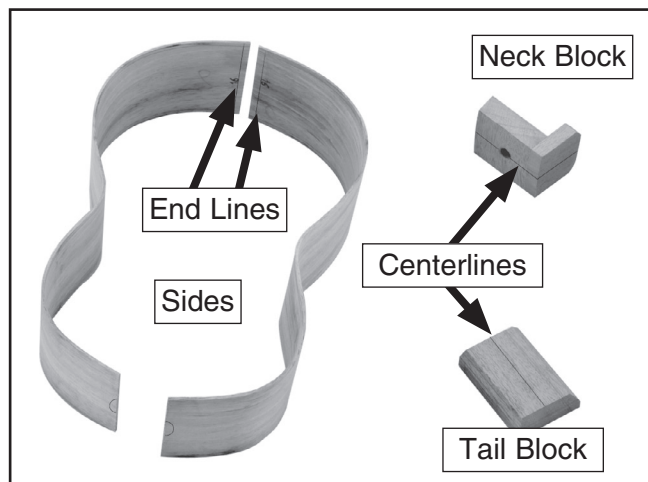

Figure 3. Tail and neck block with centerlines and sides with factory layout lines.
1. Draw centerlines all the way around the tail and neck blocks (see **Figure 3**).